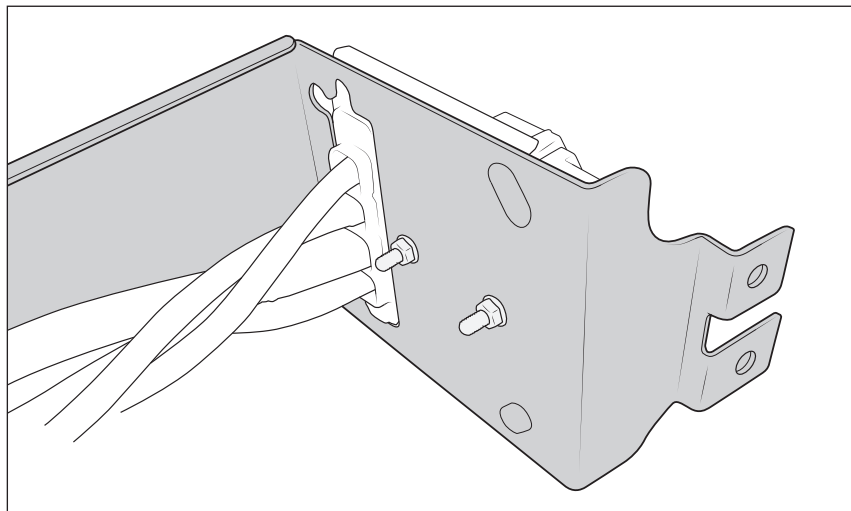

Figure 11
6. Mount the controller to the bracket using QTY 2 flange nuts provided on controller (fig. 11).